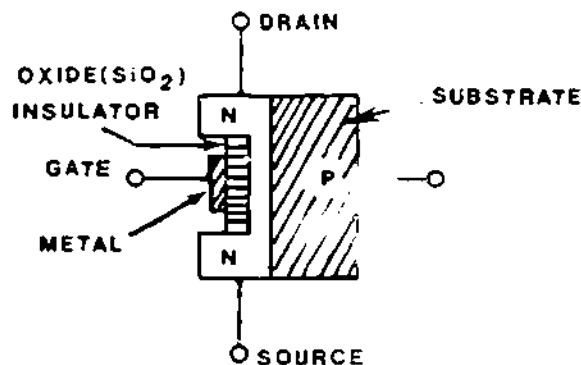

Figure 17
- (18) Figure 17 repeats the illustration of an N-channel MOSFET.